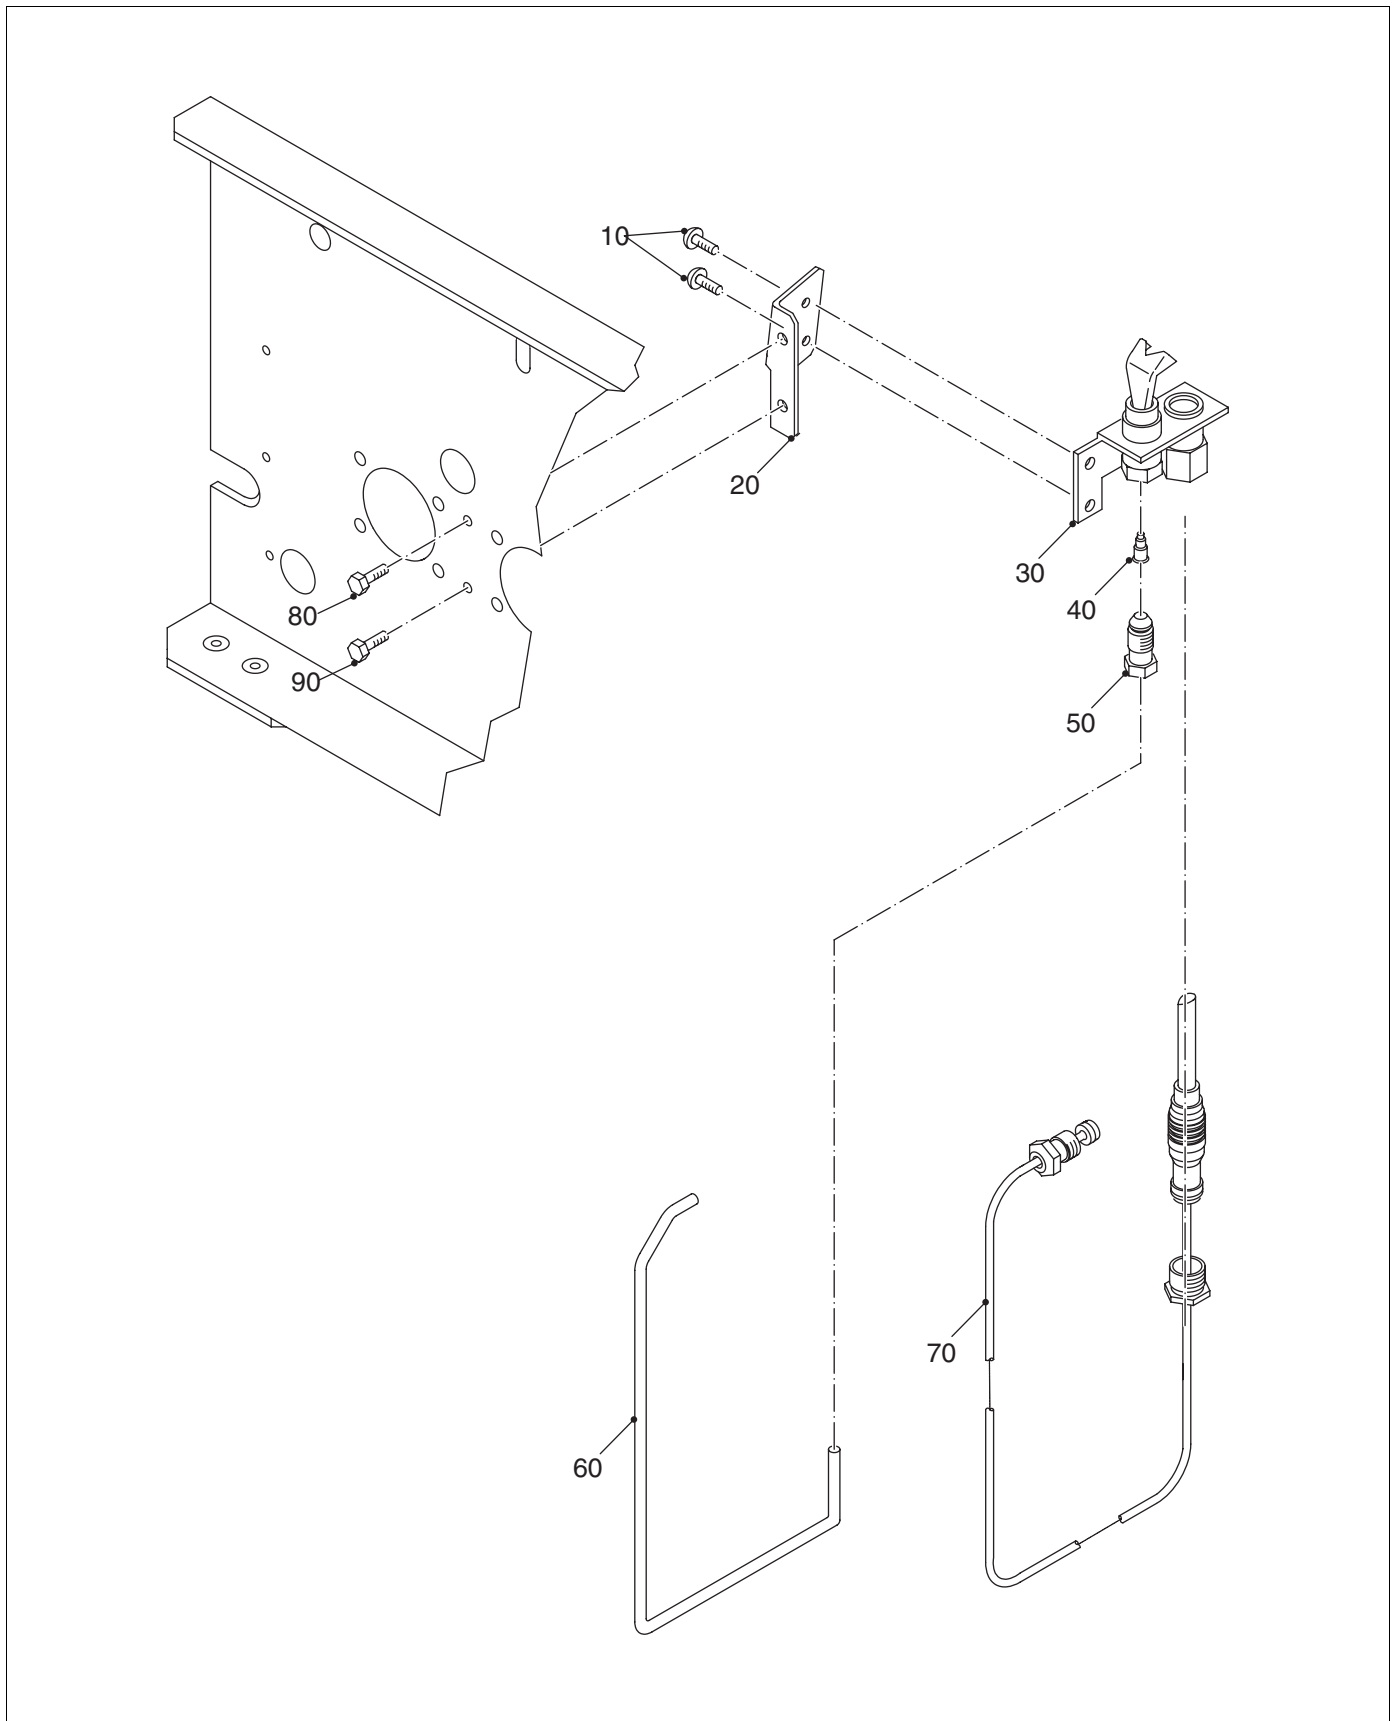

Fig. 58 Pilot burner for G124X SP
**Pilot burner for G124X SP (→ Fig. 58)**